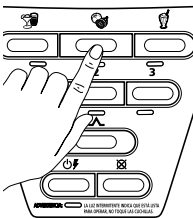

Fig. 20
- Press one of the three intelligent program buttons appropriate for your recipe (Fig. 20).